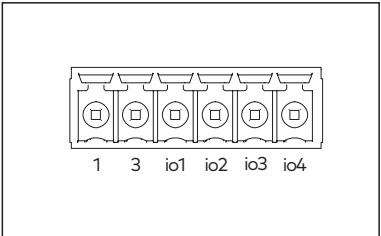

Fig. 88
| (3) Multiport Fig. 88                  | (8) Drive connection              |